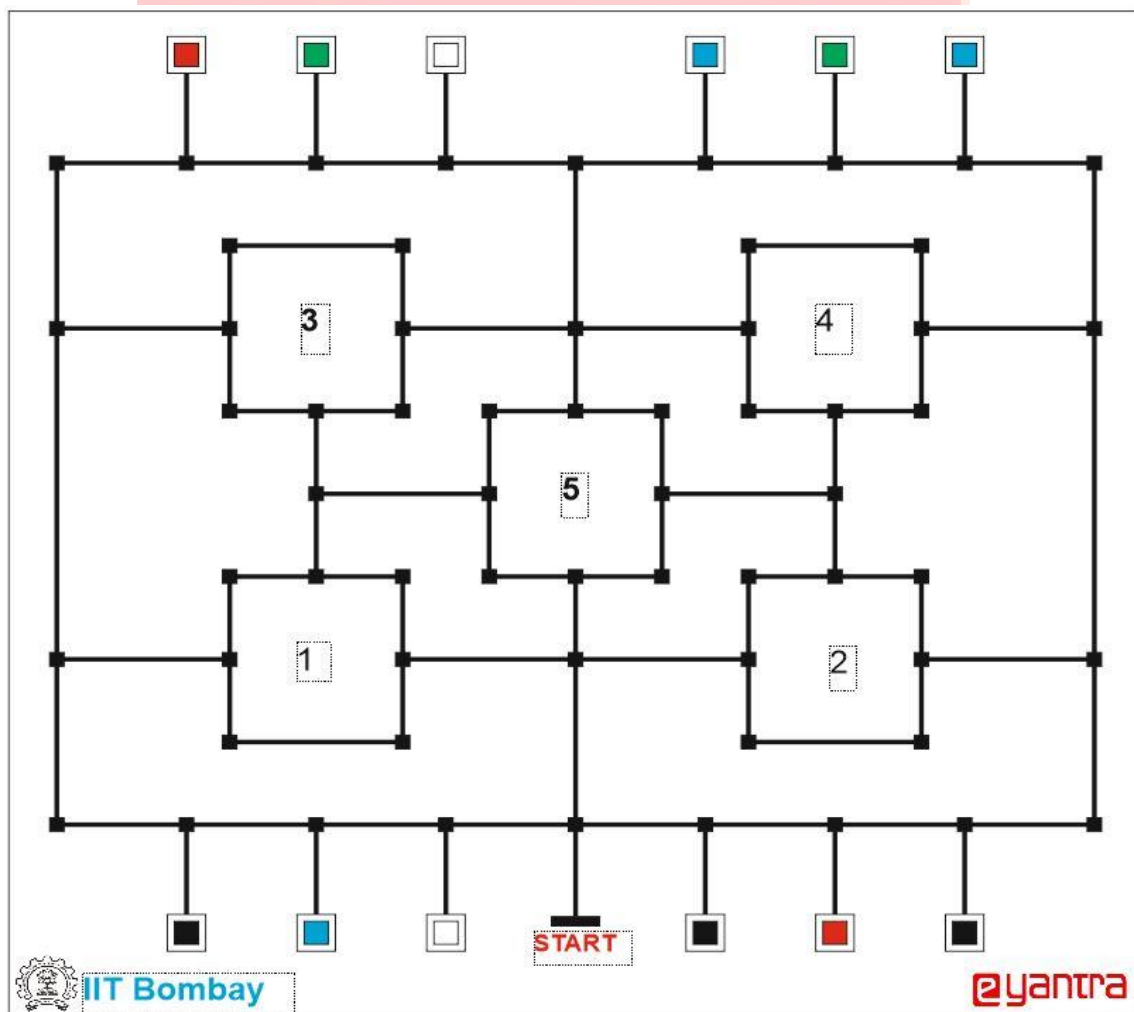

Figure 1: Arena
1. The robot starts from **START** position of the arena representing a warehouse (Refer to Figure 1).
- Thermocol blocks are used to represent packages. Three colors Red (R), Blue (B), or Green (G) are used to represent different **types** of packages.
- There are twelve **pick-up points** in the warehouse where packages are placed on arrival to the warehouse. Each pick-up point can contain: (i) **No package** – when the pick-up point is empty (ii) **Valid package** – when a package of one of the colors – Red (R), Blue (B), or Green (G) – is at the pick-up point or (iii) **Invalid package** – when a Black package is at the pick-up point which should not be picked up. Number of valid packages to be picked up from the pick-up points can vary from 3 to 7.
The arena for this theme is a simplified abstraction of a warehouse. There are 12 pick-up points marked on the arena. Packages of different types represented by blocks of colors Red, Blue, or Green will be placed on these pick-up points. A pick-up point may or may not contain a package. For example, with reference to Figure 1, there are 2 red blocks, 3 blue blocks, and 2 Green blocks placed on the pick-up points. There are three black blocks that are invalid packages and two pick-up points are empty. The deposition zones are indicated by 1, 2, 3, 4, and 5 in the arena. The black line on the arena is the line along which the robot will navigate its path.
The complete arena with the above mentioned details for this theme is depicted in Figure 1.